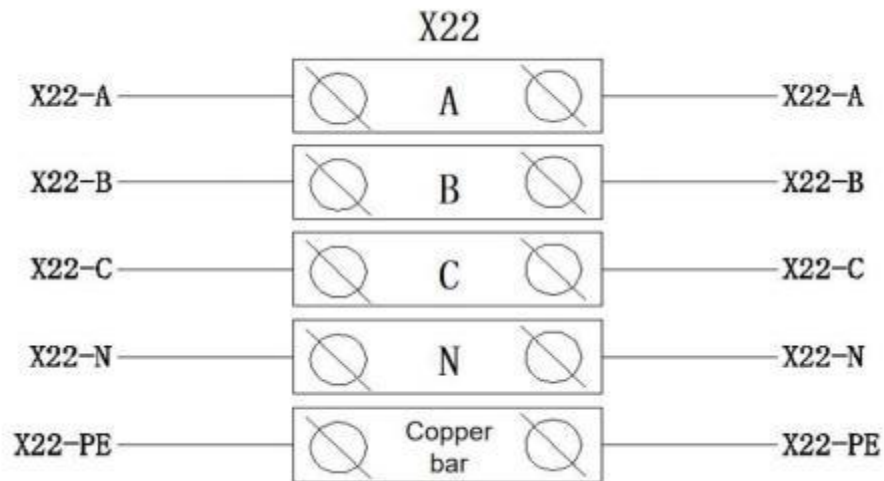

Figure 6.16 Wiring diagram
- The power cables connecting the lower-layer are pre-installed before delivery. Only the connection between the upper-layer power cables and the right side of the terminal block is required, as shown in Figure 6.16.